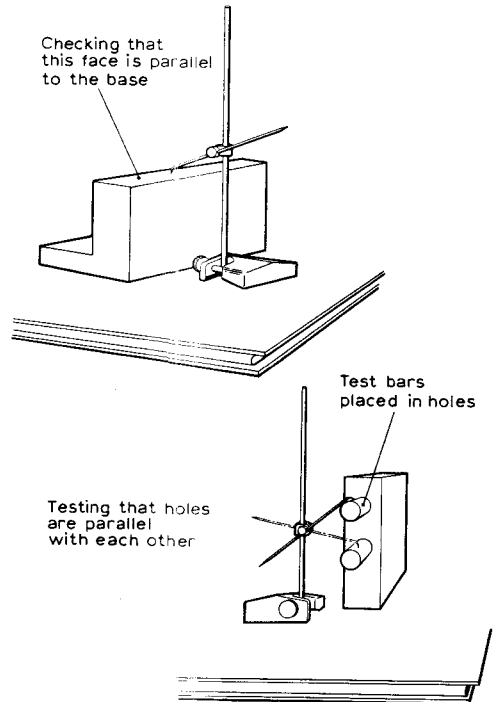

Fig. 4.106
3. **Parallelism** can be checked by using calipers, micro-meters, height gauges, scribing blocks, etc. Some methods of testing parallelism by using a scribing block are shown in Fig. 4.106.